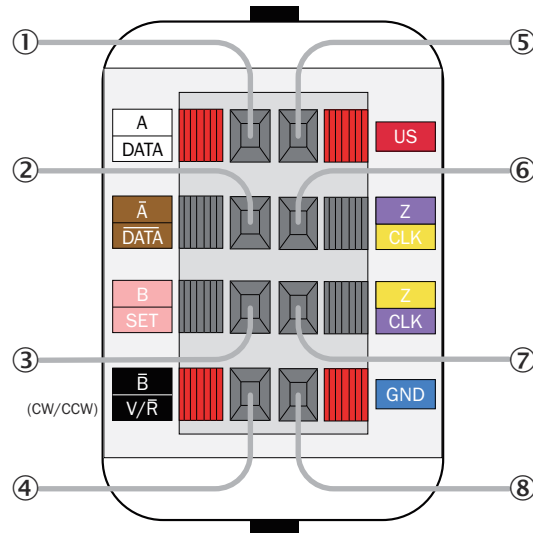

Figure 21: PGT-08-S connection diagram
1. Connect the encoder with the associated cable. Encoders with cable outlet and open cable ends can be connected to the spring terminal boxes in accordance with figure 21 .